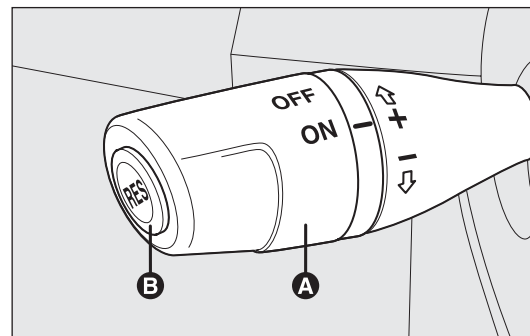

fig. 39
Turn twist switch A-fig. 39 to ON.
- ☐ turn twist switch A-fig. 39 to ON and press the accelerator pedal until you reach the required speed;
- ☐ press button RES B-fig. 39.
- ☐ pressing the accelerator pedal; in this case, the system is not really switched off but the request for acceleration takes priority. The cruise control is, however, active and you do not need to press button RES B-fig. 39 to restore the previous conditions when you have finished accelerating.